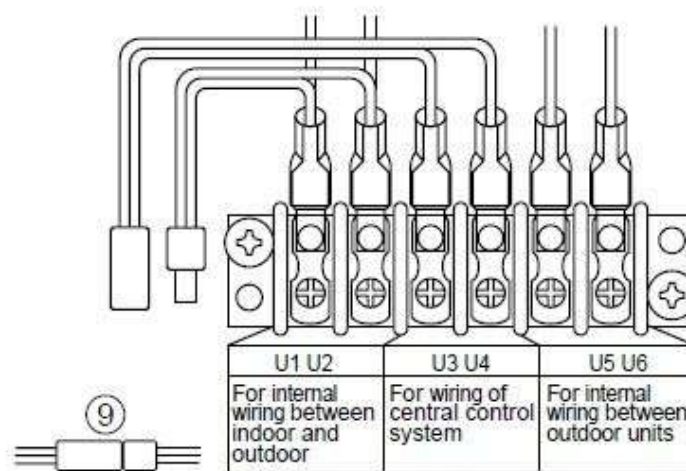

Fig 4
U1, U2 & U3, U4 is Disconnected, (Factory default DISCONNECTED) (Fig 4)
- 4) Confirm that the “White Link Plug & Socket” connected between U1 & U3 / U2 & U4 on the “Lead” outdoor unit is **DISCONNECTED**. Refer to Fig 4